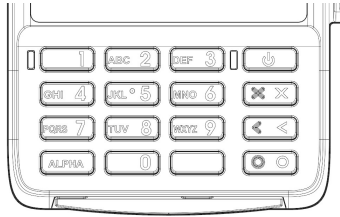

Figure 6
After inserting the chip card, Press the numeric key as below keypad (**Figure 6**) to enter the desirable numbers. Press Cancel (X) key to terminate any current function and press the Enter (O) key to confirm a value or an option.